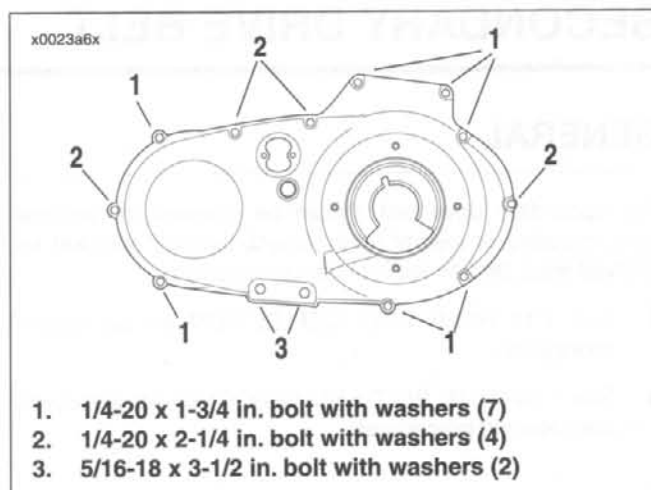

Figure 6-4. Install Primary Cover Bolts
3. See Figure 6-4. Install primary cover and gasket onto left crankcase half using mounting bolts.